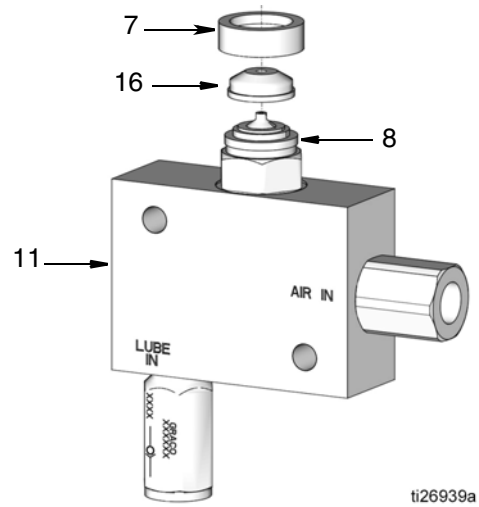

FIG. 12
4. Install the air valve spray cap (16) and spray valve retaining ring (7) over the valve spray cap (8) as shown in FIG. 12. Torque the retaining ring (7) to 6 ft-lbs (8.14 N•m).